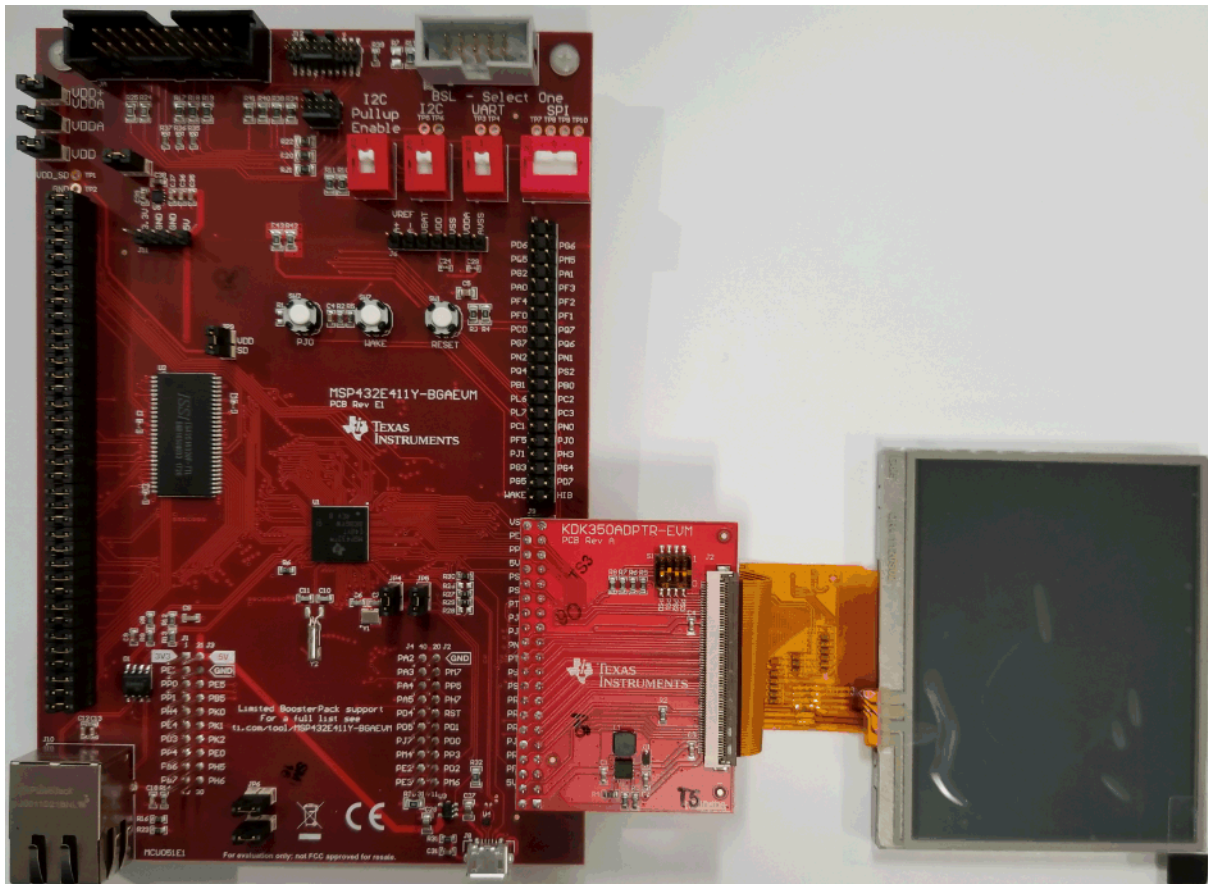

Figure 2. KDK350ADPTR-EVM Connected to MSP432E411Y-BGAEVM
1. Connect the J1 female header on the KDK350ADPTR-EVM to the J9 male header on the MSP432E411Y-BGAEVM. Make sure to align all of the pins. Figure 2 shows how the LCD EVM connects to the BGA EVM.